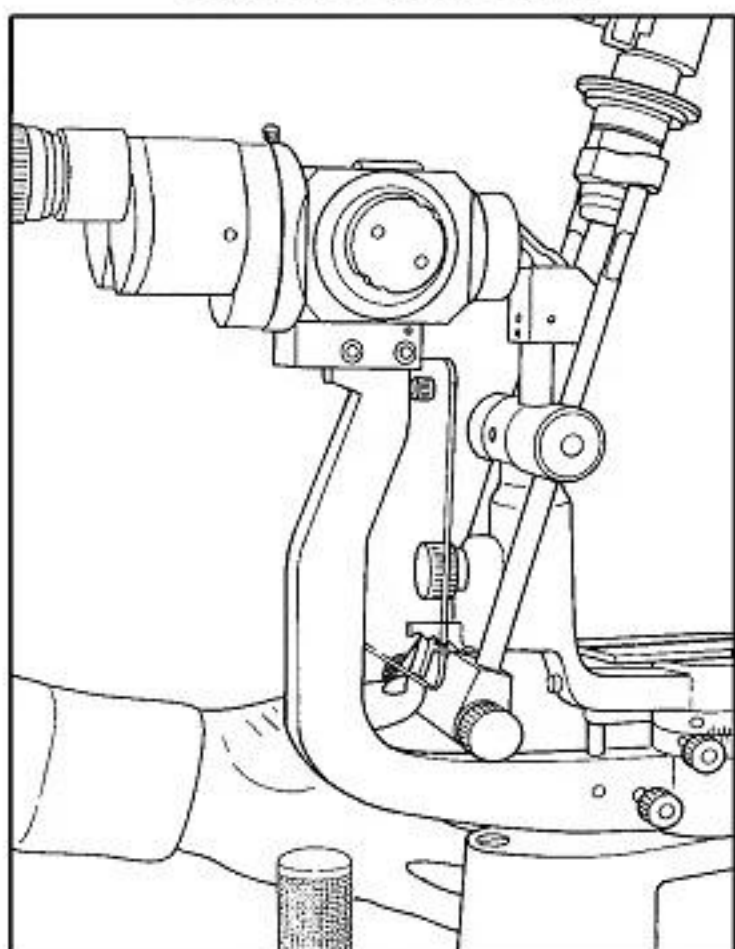

Fig. 24: Tilting the system
- 1) Press down the latch and pull the illumination base toward the operator until the tilt reach to the appropriate tilt stop position (Fig.24).